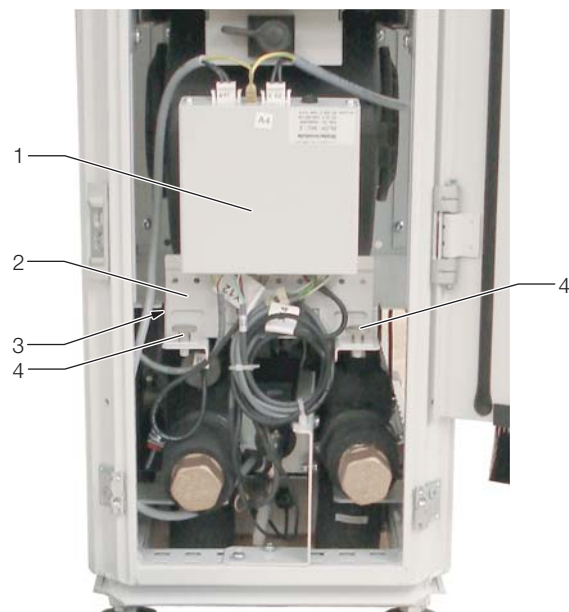

Fig. 28: Water module control unit
- Place the control unit together with the holder (Fig. 28, item 1 and item 3) onto the mounting plate (Fig. 28, item 2) in the Liquid Cooling Package Inline.
- Insert both thumb screws (Fig. 28, item 4) and tighten them.